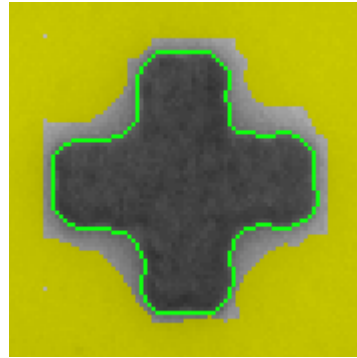

Figure 56. Draw regions to ignore, if necessary.
5. Move to Customize Scoring tab and, if necessary, draw regions to ignore [Figure 56].